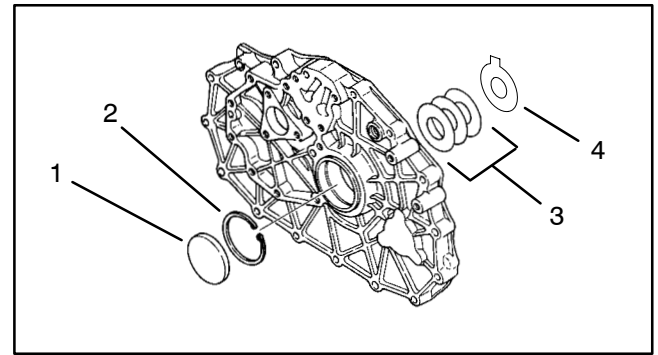

Figure 90
IMPORTANT: The center plate uses one tabbed shim (Item 4) with three tabless shims (Item 3) (Fig. 90).
NOTE: The thickest shim of the shim set (Item 3) should be positioned against the retaining ring (Fig. 90).
16. Insert tabbed shim (Item 4) against the bearing. Insert shim set (Item 3) against the tabbed shim. Use thickest shims in set possible, that will permit installation of the snap ring (Fig. 90 and 91).